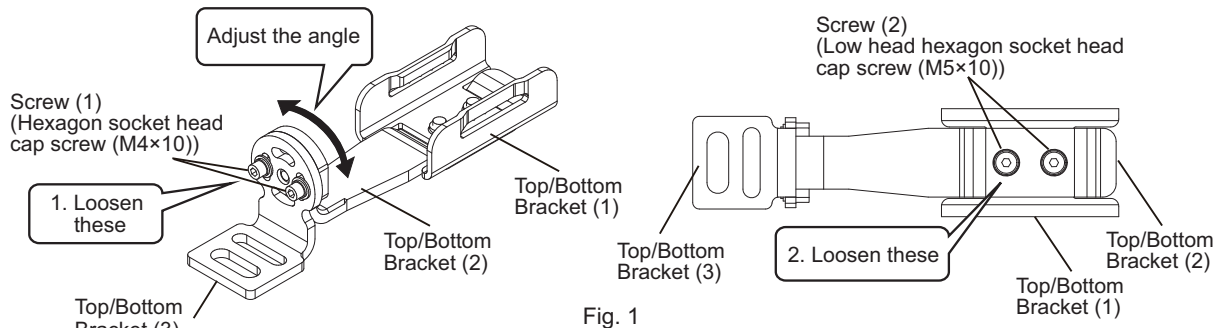

Fig. 1
1. Loosen the Screw (1) (hexagon socket head cap screw (M4×10)) of Top/Bottom Bracket (3) and change the angle of the Top/Bottom Bracket (3) according to its mounting direction. Then loosen the Screw (2) (low head hexagon socket head cap screw (M5×10)) of Top/Bottom Bracket (2). (Fig. 1)